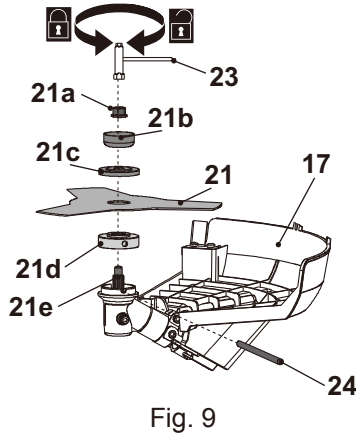

Fig. 9
- Insert the spindle lock rod (24) into the hole to lock the spindle (21e).
- Loosen the trimmer head (18) clockwise by hand and remove it together with the locking flange (21c).
- Fit the cutter blade (21) onto the spindle (21e). Ensure that the cutter blade (21) sits flush on the extruded ring on the backing flange (21d).
- Place the locking flange (21c) onto the cutter blade (21).
- Secure the cutter blade (21) by tightening the nut (21a) counter-clockwise using the supplied multi tool (23) and spindle lock rod (24).
- Remove the multi tool (23) and the spindle lock rod (24).
- Remove the blade protector (21f) (if provided) from the cutter blade (21) before operation (Fig. 9).